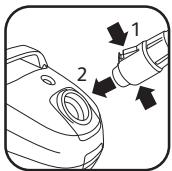

fig. 1
- Clip the end of the hose to the suction inlet - fig. 1.